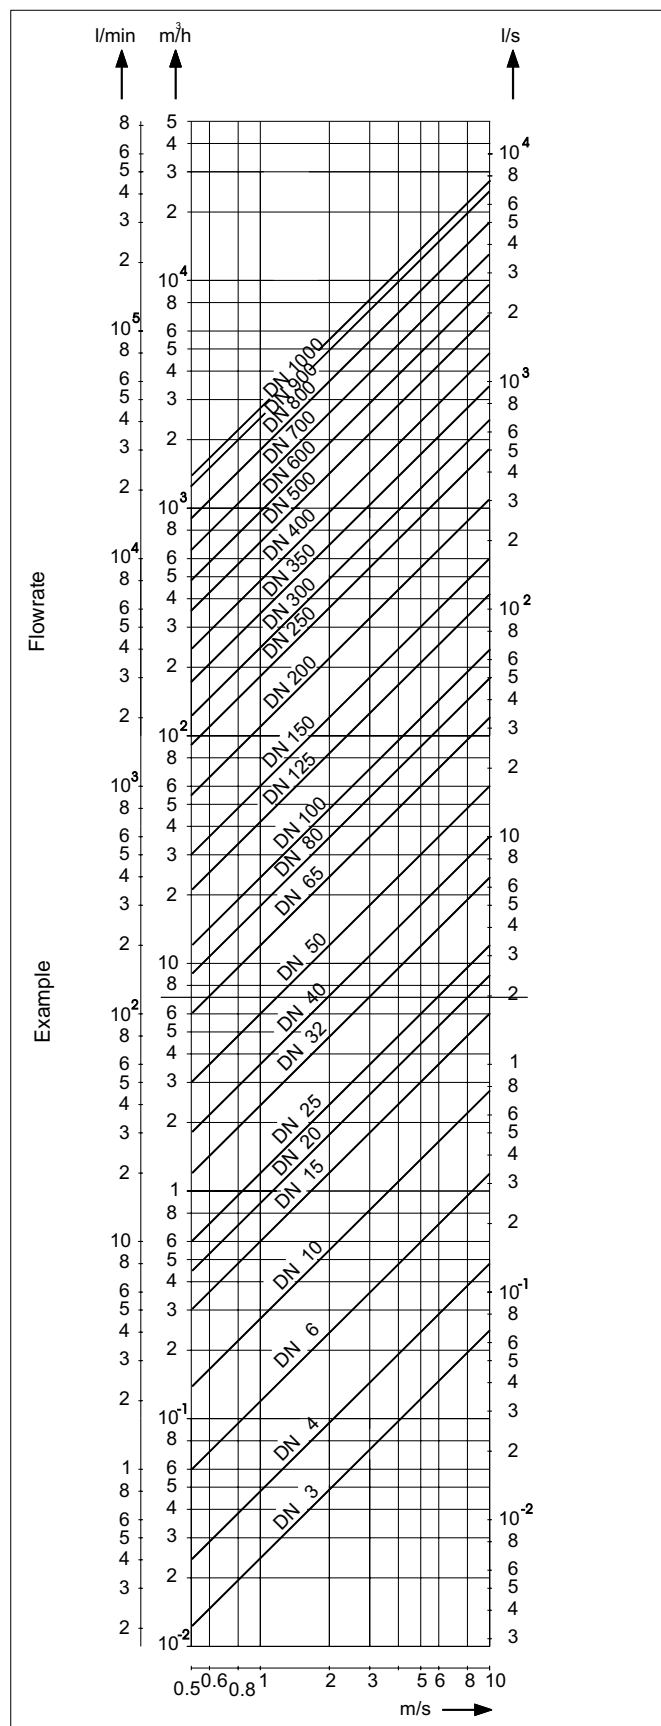

Fig. 3 Flowrate Nomograph 1/8" to 40" / DN 3 to DN 1000
2. Determine the flow velocity from the Flowrate Nomograph Fig. 3 .